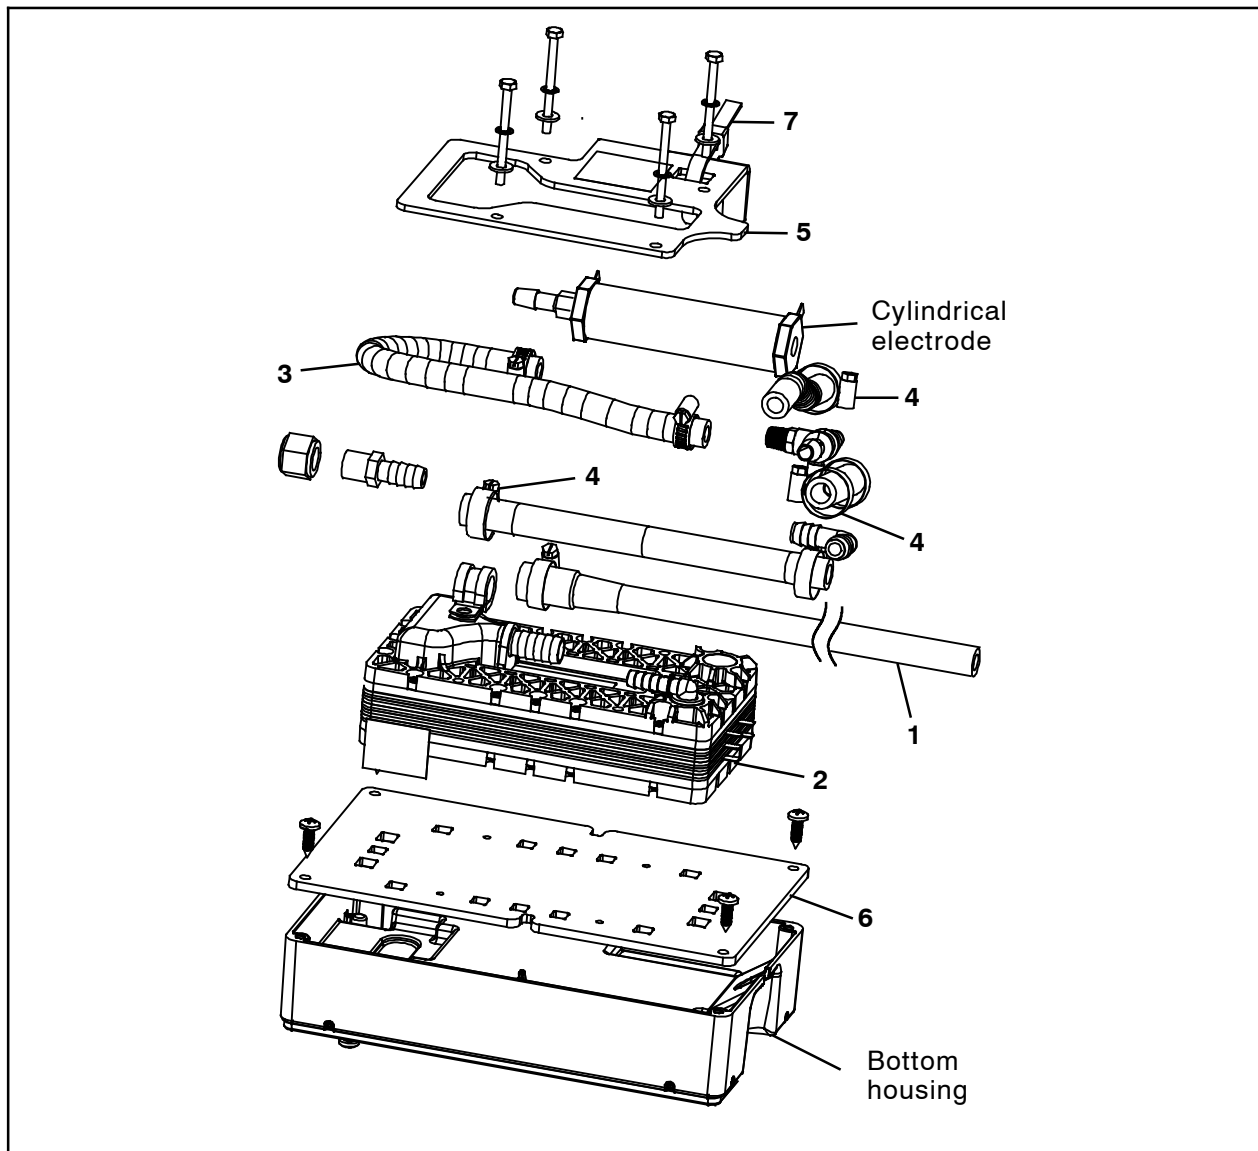

FIG. 6
12. Use saved hardware to install the new back mounting plate (6) onto the module upper housing. (Fig. 6)
13. Connect the ec- H2O harness to the new 5- plate electrode (2). (Fig. 6)
14. Use saved hardware to install the 5- plate electrode (2) and electrode bracket (6) into the module upper housing. (Fig. 6)
15. Use a zip tie (7) to secure the cylindrical electrode to the electrode bracket (6). (Fig. 6)
16. Use saved clamp to connect the 10.25 in. PVC hose to the 5- plate electrode (2) IN port. (Fig. 6)
17. Use a hose clamp (4) to connect the molded hose (1) to the 5- plate electrode (2) OUT port. (Fig. 6)
18. **If ec- H2O module was removed from the machine to install the new 5- plate electrode (2):** Reinstall the ec- H2O module onto the machine.
19. If necessary, cut the the molded hose (1) to the appropriate length to be reconnected to the existing machine ec- H2O plumbing. (Fig. 6)